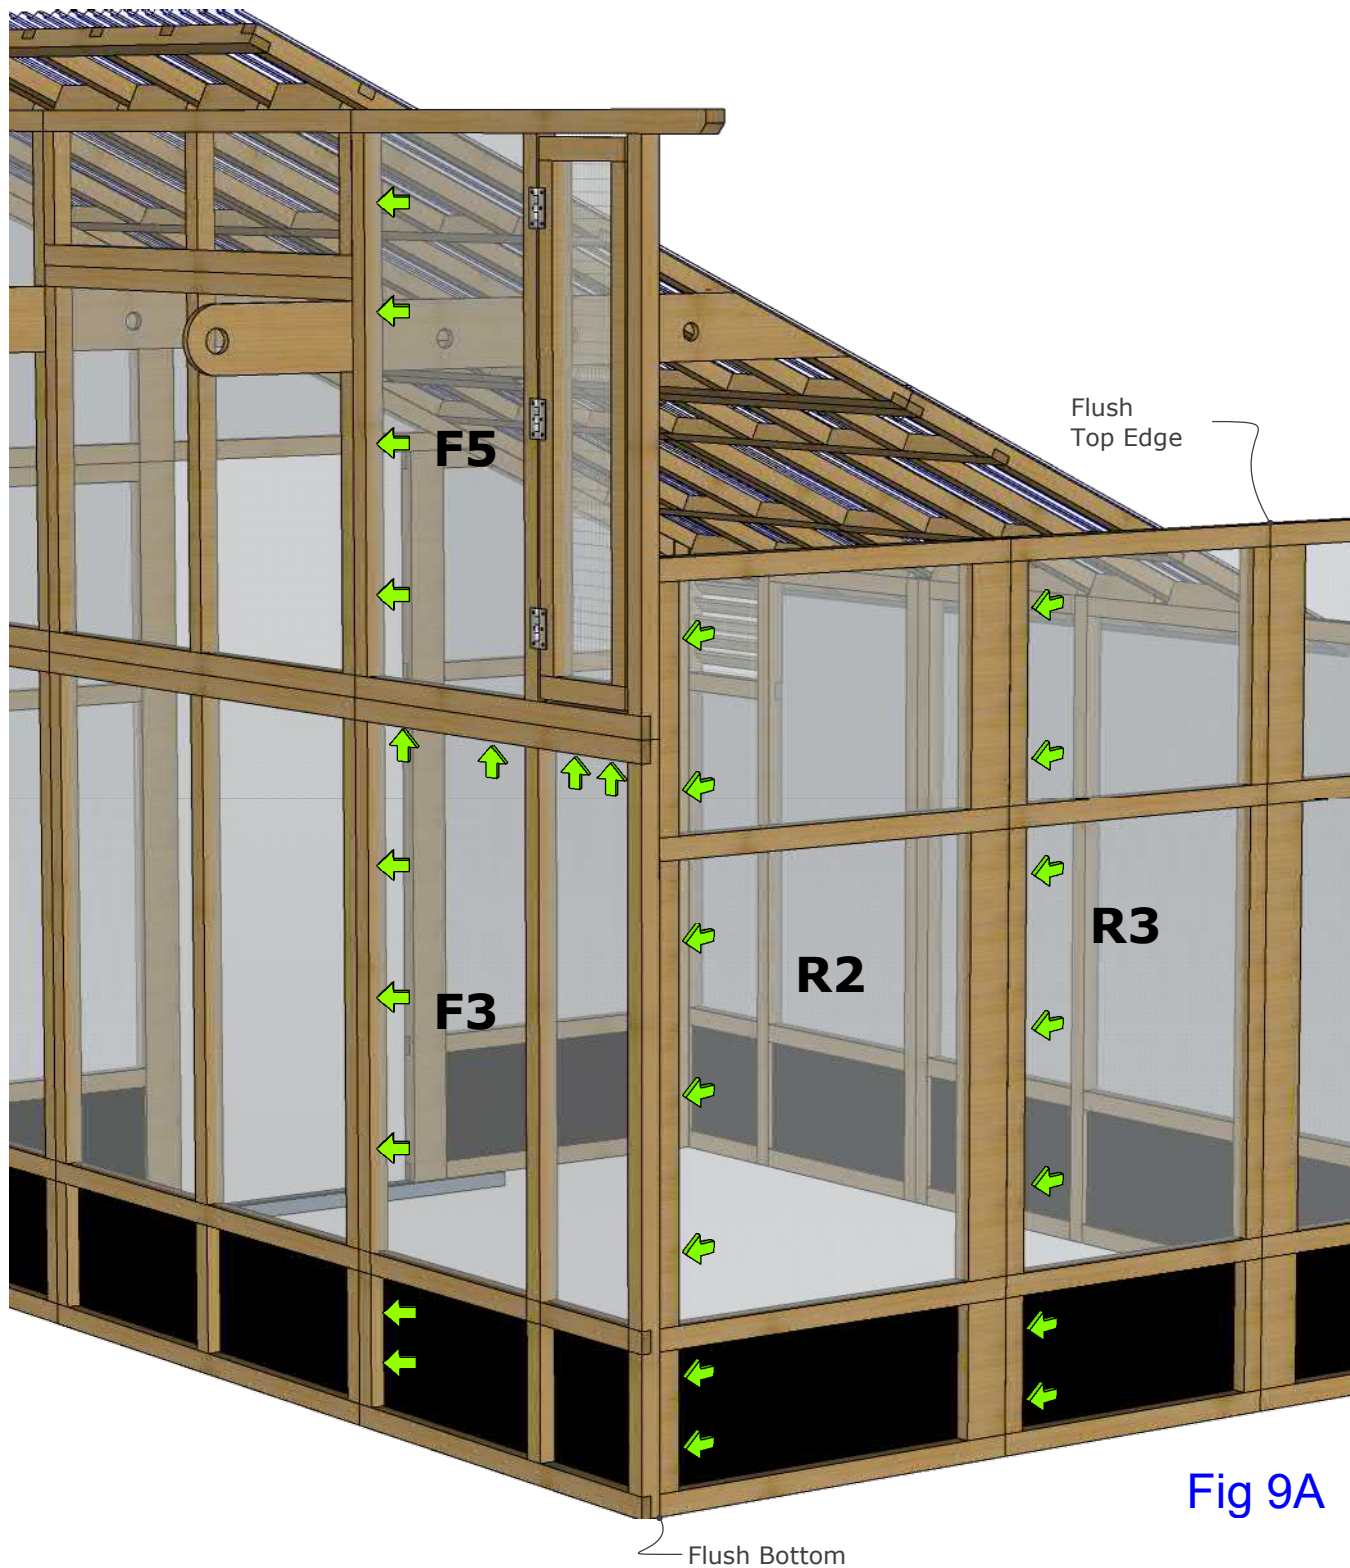

Fig 9A
9.1 Install F5 Panel: Using provided T25 screws install F3 & F5 panel as illustrated in FIG 9A.
9.2 Install R2 Panel: Using provided T25 screws install R2 panel as illustrated in FIG 9A. Make bottom edge flush.
9.3 Install R3 Panel: Using provided T25 screws install R3 panel as illustrated in FIG 9A making top edges flush.